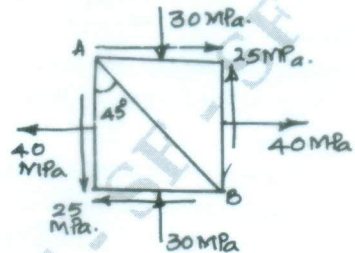

Fig Q1(b)
- b. A point in a structural member subjected to plane stress is shown in Fig Q1(b). Determine the following :